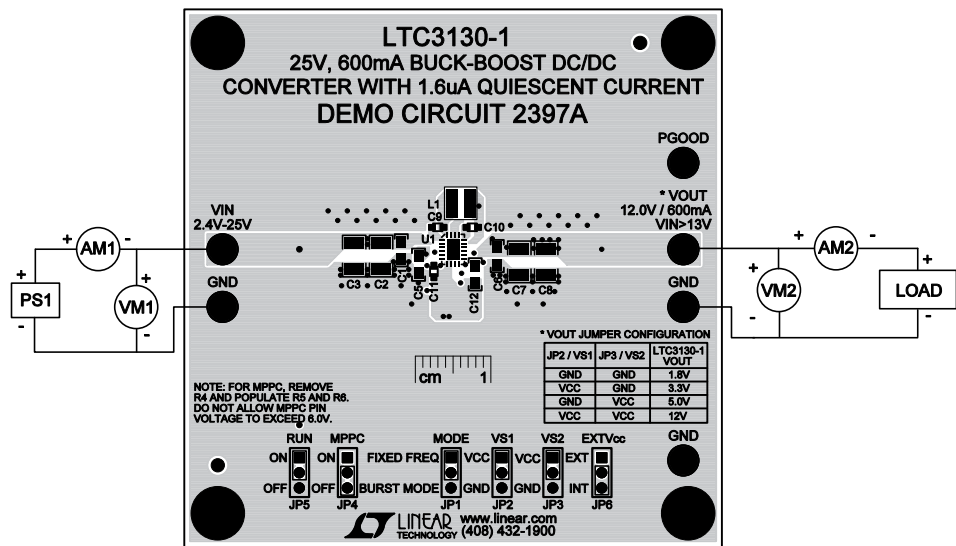

Figure 4. Proper Measurement Equipment Setup
Using short twisted pair leads for any power connections and with all loads and power supplies off, refer to Figure 4 for the proper measurement and equipment setup. The power supply (PS1) should not be connected to the circuit until told to do so in the procedure below.
2. With power OFF connect the power supply (PS1) as shown in Figure 4. If accurate current measurements are desired (for efficiency calculation for example) then connect ammeters in series with supplies as shown. The ammeters are not required however.
3. Connect a 50mA load ( $240\Omega$ ) to  $V_{OUT}$  as shown in Figure 4.